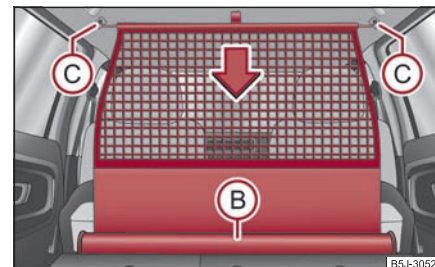

Fig. 90 Roll up net partition
- Pull the cross rod back slightly, first on the one side then on the other side and take the cross rod out of the mount (C) ⇒ fig. 90.
- **Hold** the cross rod in such a way that the net partition can roll up slowly and without damage into housing (B).